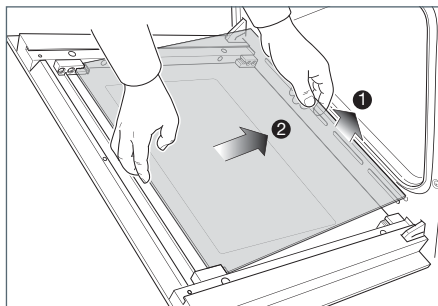

Fig. 37c
- Gently lift the bottom edge of the pane (arrow 1 in Fig. 37c) and remove it by pulling it out from the top clamps (arrow 2 in Fig. 37c).